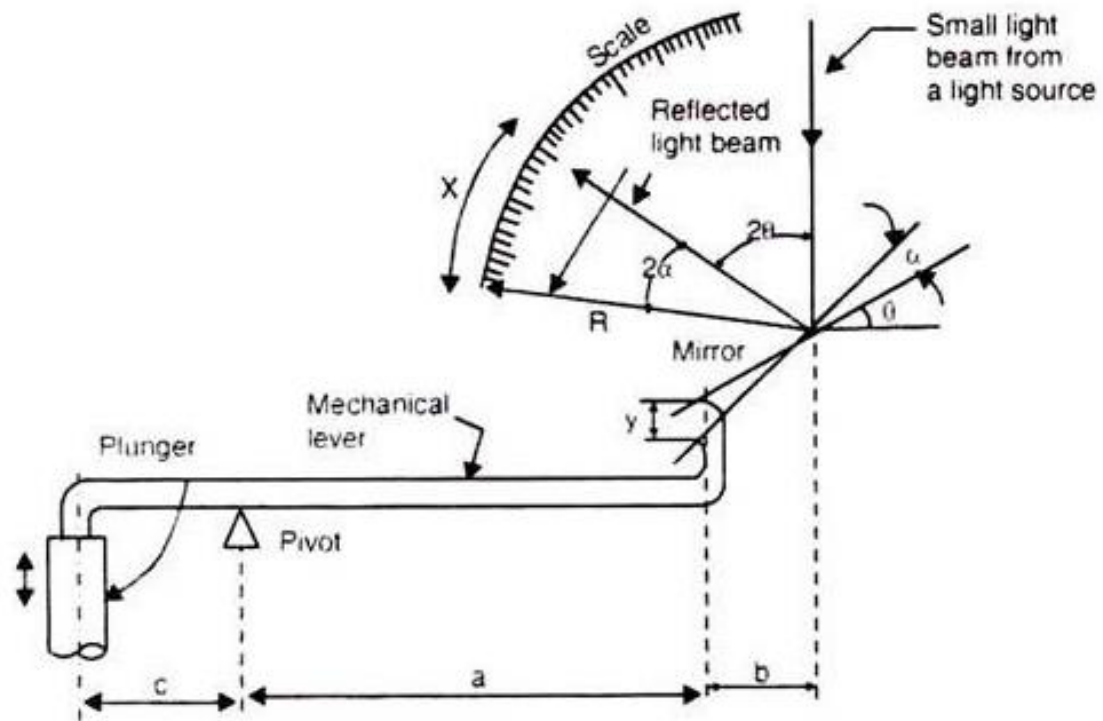

Fig. 1.15. An Optical Comparator.
- Fig. 1.15 shows the working principle of an optical-mechanical comparator in which both mechanical and optical levers are used.